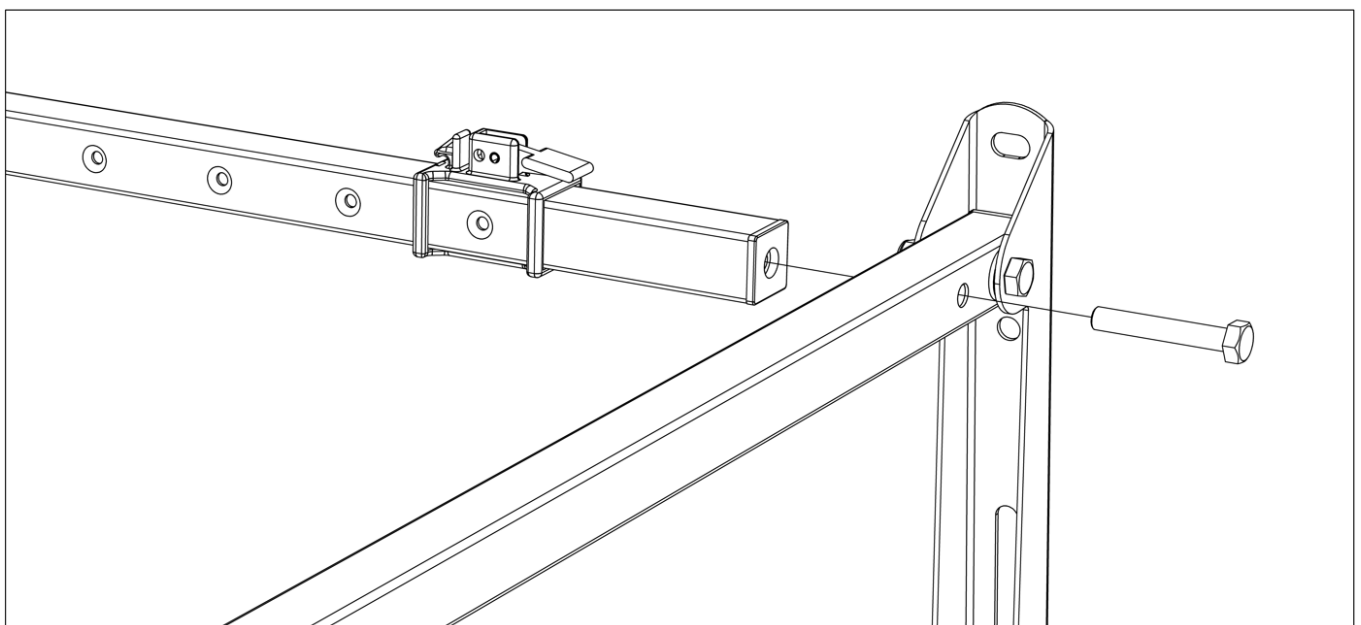

Fig 3. Fit the rear bar assembly.
8. Fit the pre-assembled rear spacer using the 5/16" x 2" bolts. Ensure the Ø10.5mm hole is at the rear left and L.T.L. at the right. (Fig 3)